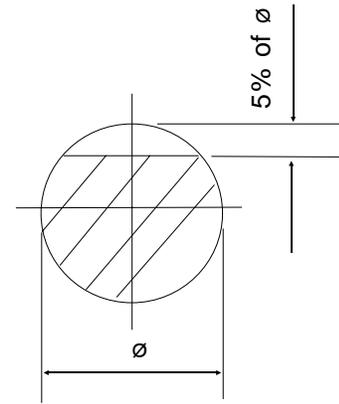

Figure 10
- 4.2.6 Total wear of the "O" rings (20) must not exceed 5% of the as new cord diameter, see Figure 10. However, the "O" rings should be replaced whenever the coupling is disassembled. Use Airflex or Geislinger genuine replacement parts only.